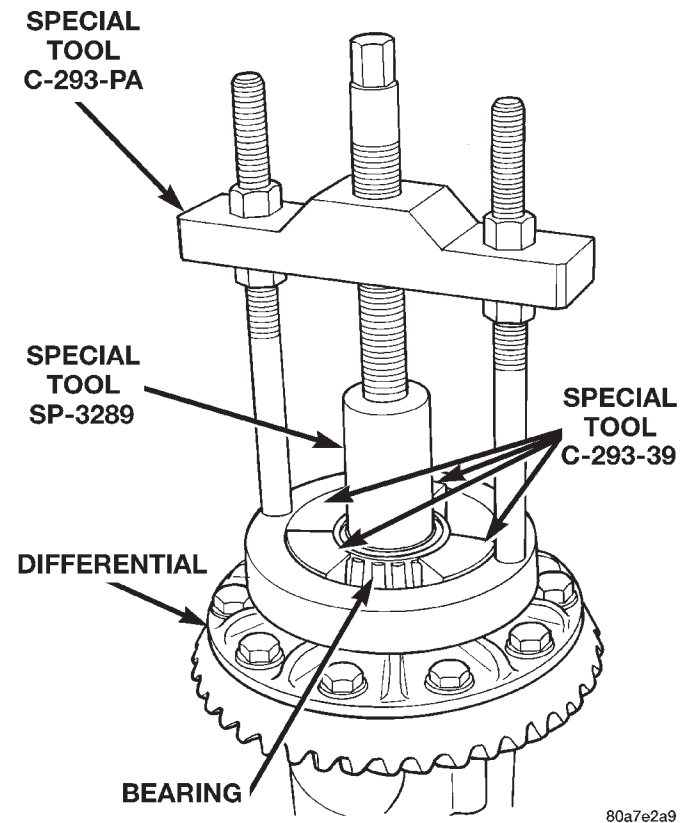

Fig. 30 Differential Bearing Removal
(1) Remove differential from axle housing.
(2) Remove the bearings from the differential case with Puller/Press C-293-PA, C-293-39 Blocks, and Plug SP-3289 (Fig. 30).